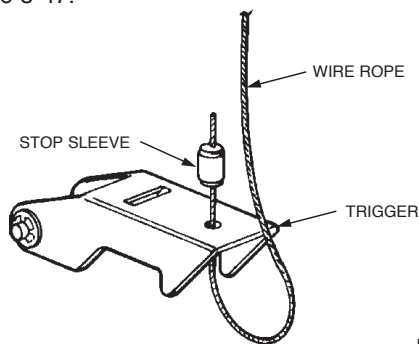

FIGURE 5-47
11. Remove the side cover on the gas valve and thread the end of wire rope through the hole in the cocking lever. Slide the stop sleeve (Part No. 26317) on to the wire rope and crimp. Use the National Telephone Supply Company Nicopress Sleeve Tool, Stock No. 51-C-887 or equal to properly crimp stop sleeve. Make certain crimp is on top of trigger, with the wire rope curled under lever. See Figure 5-47.